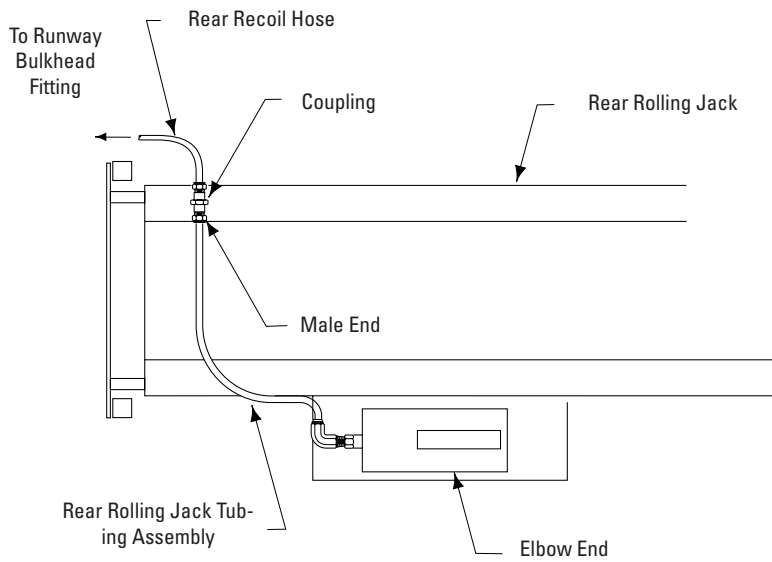

Fig. 31 REAR ROLLING JACK TO RECOIL AIR HOSE
- C. Connect one end of provided rear recoil hose to bulkhead T-fitting at midpoint of runway. Connect other end of recoil hose to coupling welded on rolling jack, Fig. 31 and 33.
- D. Connect elbow end of rolling jack tubing assembly to air pump and male end to the coupling, Fig. 31 and 33.